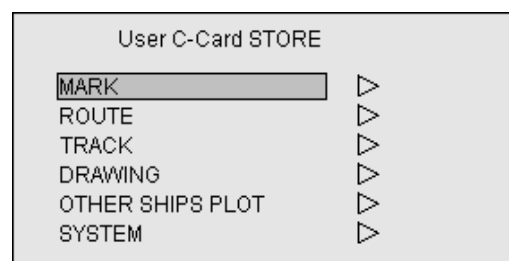

Fig 6.68 USER C-Card MENU
- (5) Move the Joystick up or down to highlight the item to be saved and press the Joystick to the right to enter the set-up menu, USER C-Card STORE. (Figure 6.68)